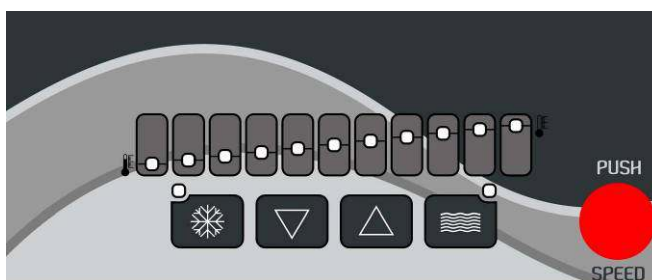

Fig. 9
- **FROZEN** – Once introduced the mix inside the bowl, switch on the snowflake button and regulate its consistency with the ▼ e ▲ buttons (fig.9).
- **DEFROST** – This mode, once activated by the waves button, reduces the machine energy consumption; the refrigerating system will automatically cycle to maintain temperature below 2°C (fig.9). Use this position when product will not be requested for hours.